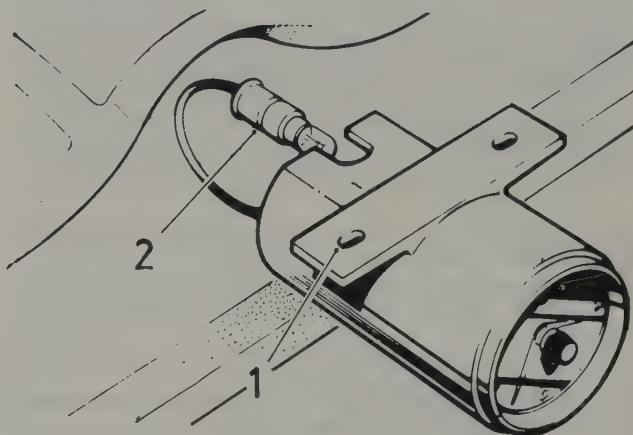

Fig. 10.46. The early type clock showing the retaining bracket (1) and the bulb/holder (2) withdrawn from the rear
- 3 On later models remove the instrument panel and then the two screws at each end of the panel. With the panel removed the clock retaining screws can be unscrewed and the clock withdrawn together with the insulation strip (Fig.10.46).